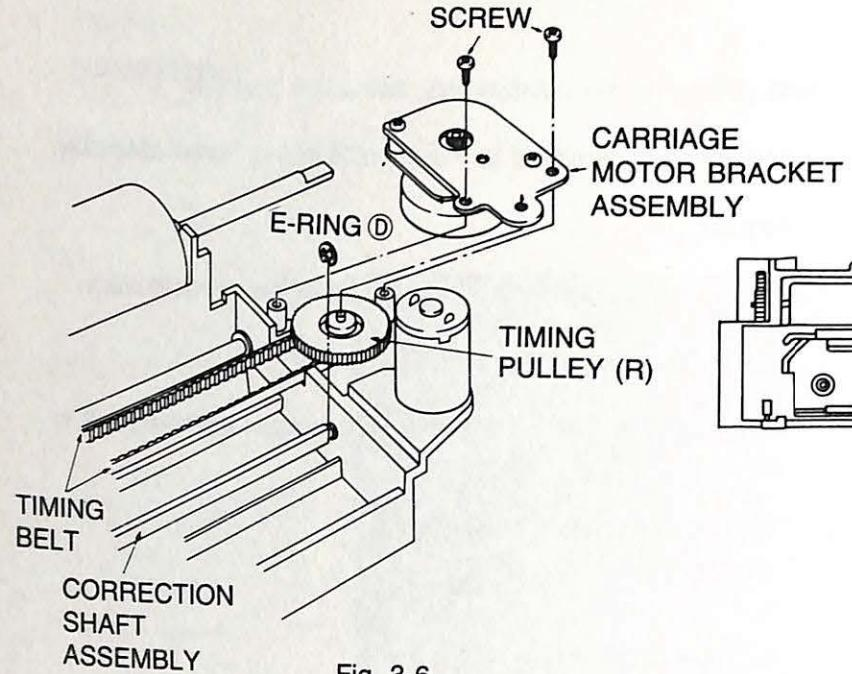
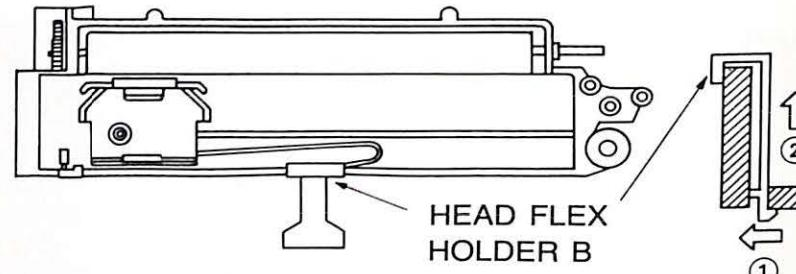

Fig. 3-6
Fig. 3-7
- (1) Remove the printing mechanism from the machine. (Refer to the disassembly instruction page 4).
- (2) Remove the screw, belt tension spring and tension frame **A** attached to the left side of the frame assembly.
- (3) Remove the timing pulley shaft(L_1) and timing pulley(L_2).
- (4) Remove the E-rings **B** and **C** from carriage shaft, and then remove the two screws from the solenoid block.
- (5) Slide the carriage shaft out to the left side. (Do not scratch the shaft).
- (6) Remove the E-ring **D** from correction shaft (Refer to Fig 3-6), and slide the correction shaft assembly out to the right side.
- (7) Remove the two screws and the carriage motor bracket assembly.
- (8) Remove the timing belt from the timing pulley(R).
- (9) Move the head flex holder B in the direction of the arrow and remove it (Fig 3-7).